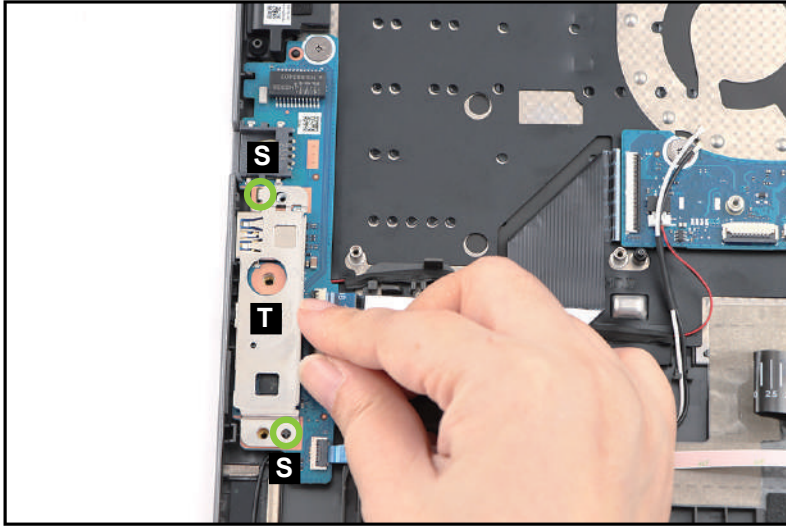

Figure 3-113. Replacing the Mainboard
17. By aligning with the guide pins (S), install the left IO bracket (T) onto its slot on the USB board as shown in Figure 3-113.